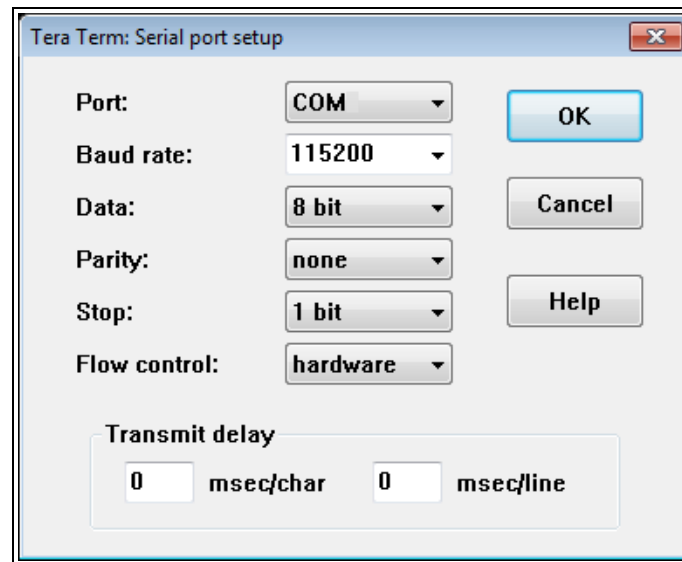

Figure 17: Tera Term: Serial Port Setup dialog box with default settings
8. **Important:** Verify, and change if required, the Tera Term serial port settings (except the **Port** setting) of the connected Z9-C or Z9-T so the settings are the same as the defaults shown in Figure 17.